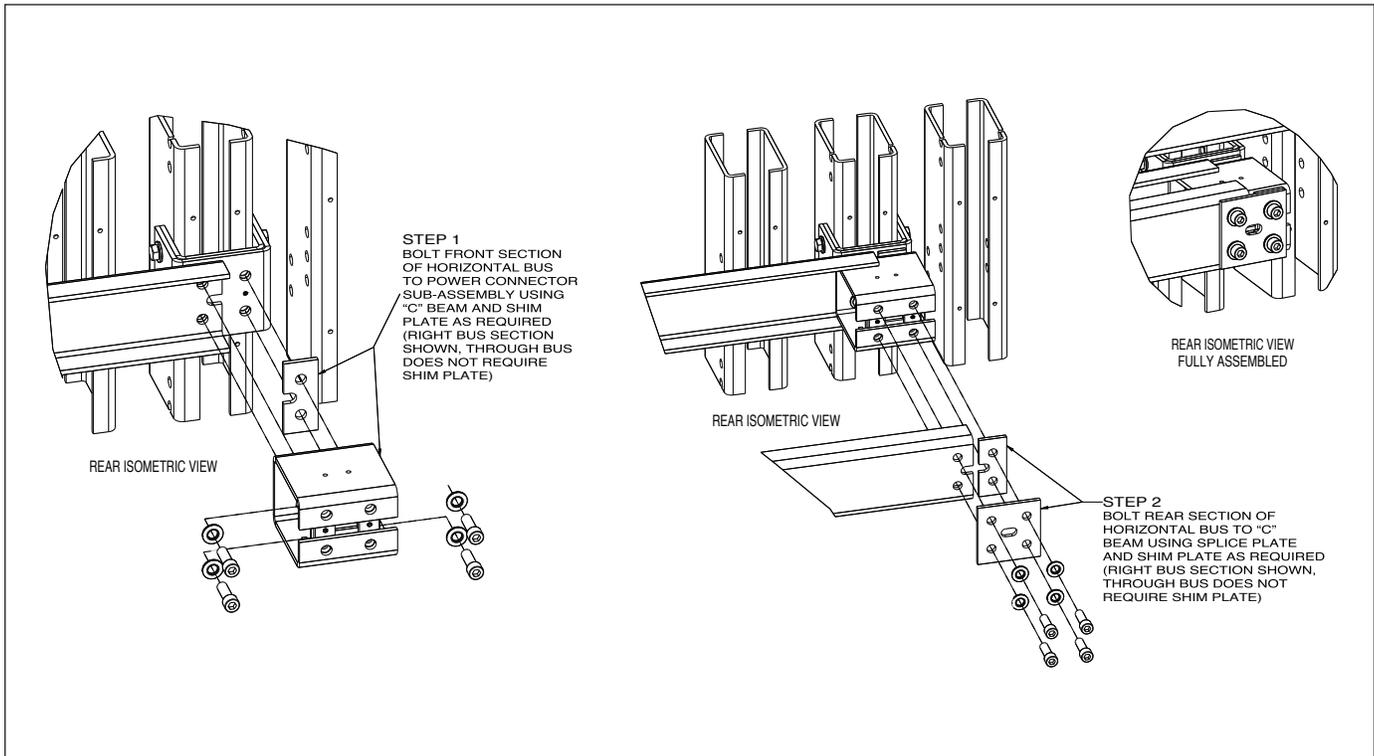

Figure 16. Two lamination through bus
5. Horizontal main bus joints with two or four laminations of through bus (**Figures 16 and 17**) may be serviced as follows: